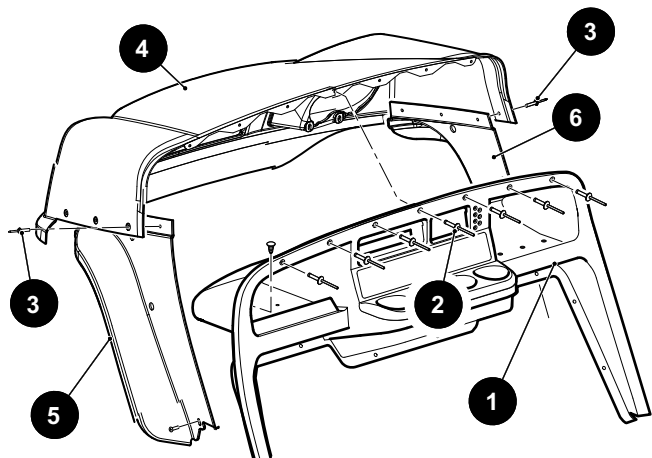

Figure 5 Cowl Replacement
2. Drill out seven rivets (2) across top of instrument panel (1) that secure the instrument panel to the cowl (4) (Figure 5).
3. Drill out six rivets (3) (three on each side) that secure the cowl to the front fenders (5, 6).